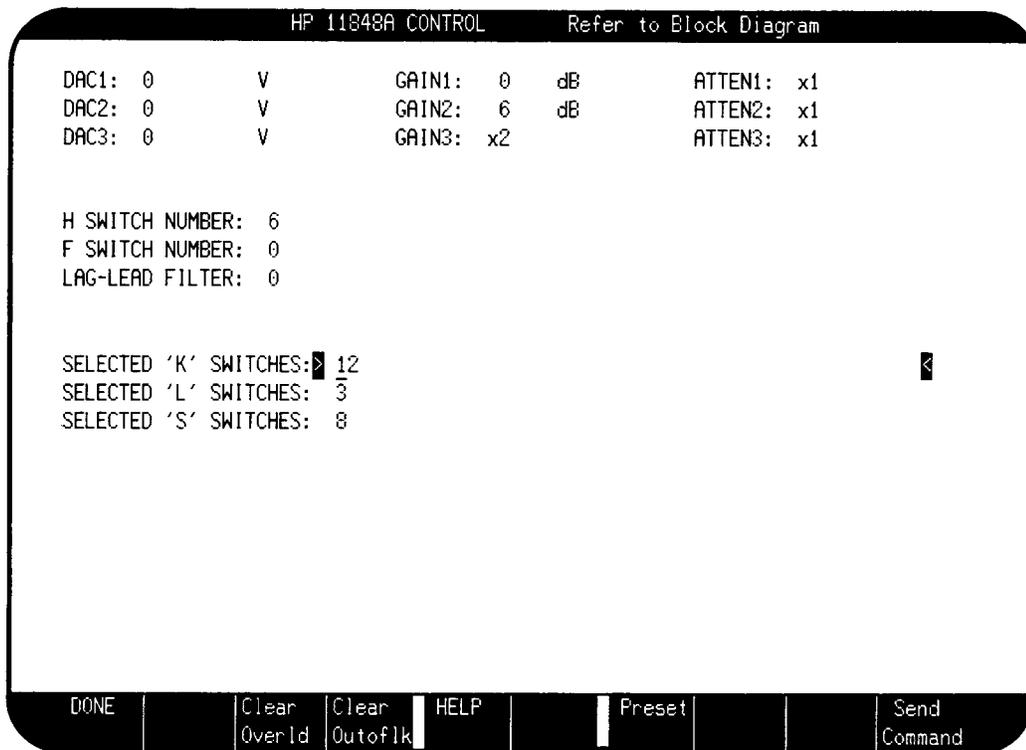

Figure 3-17. HP 11848A Control Display for Fast Hop Test
- d. Use the cursor control keys to move the cursor to the "SELECTED 'K' SWITCHES:" line then key in 12. (Refer to figure 3-17.)
- e. Press the **Send Command** softkey to initiate the commands. The display should appear as in figure 3-17.